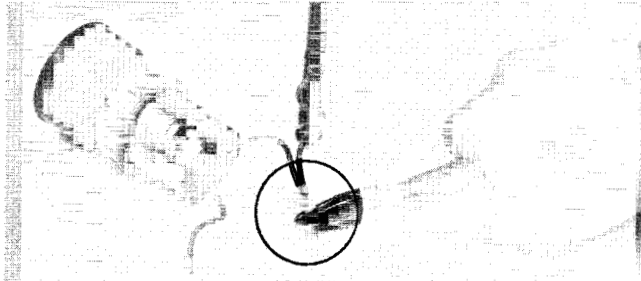

Figure 3.11a
3.11 REPLACE MOTOR (fig. 3.11a, 3.11b)